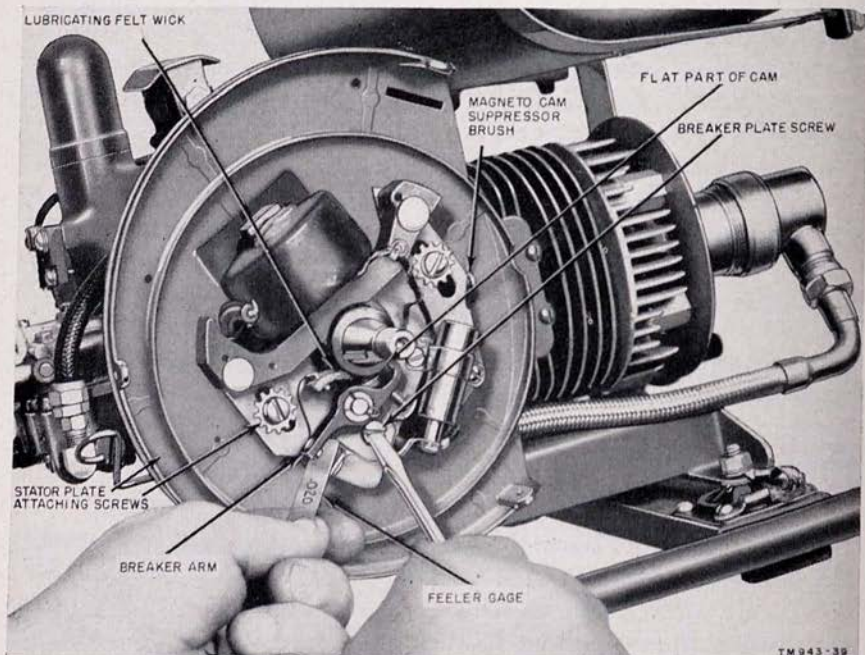

Figure 39. Adjusting magneto breaker points.
a. BREAKER-POINT REMOVAL (fig. 39).
(1) Remove the screw that holds the breaker plate to the stator plate.
(2) Remove the breaker-arm wire lock spring and washer.
(3) Lift the breaker arm from the breaker plate. Be careful not to lose the coil tension spring.
b. CAPACITOR REMOVAL (fig. 39).
(1) Remove the screw and lockwasher from the stud end of the capacitor.
(2) Remove the lead and breaker-plate leaf spring.
(3) Remove the two screws and the clamp that hold the capacitor to the stator plate and take off the capacitor.